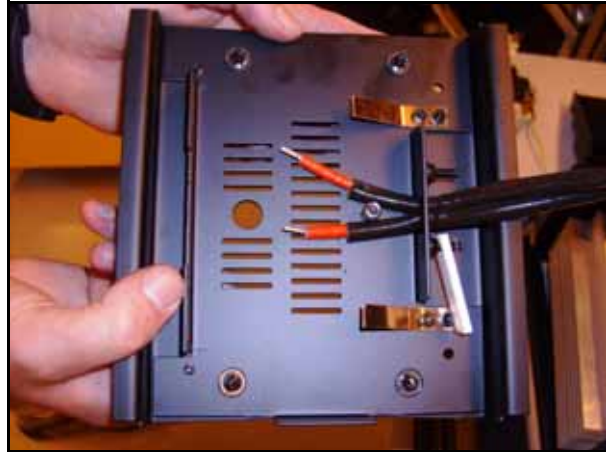

Figure 57
62. See Figure 57. Hold the new rear lampholder assembly (P/N 55205111) supplied in the Upgrade Kit up to the back of the head and thread the lamp leads behind the rear lampholder plate towards the lampholder terminals. You may need to release and remove the rear lampholder plate temporarily (as shown in the photo) to make it easier to pass the leads behind it.